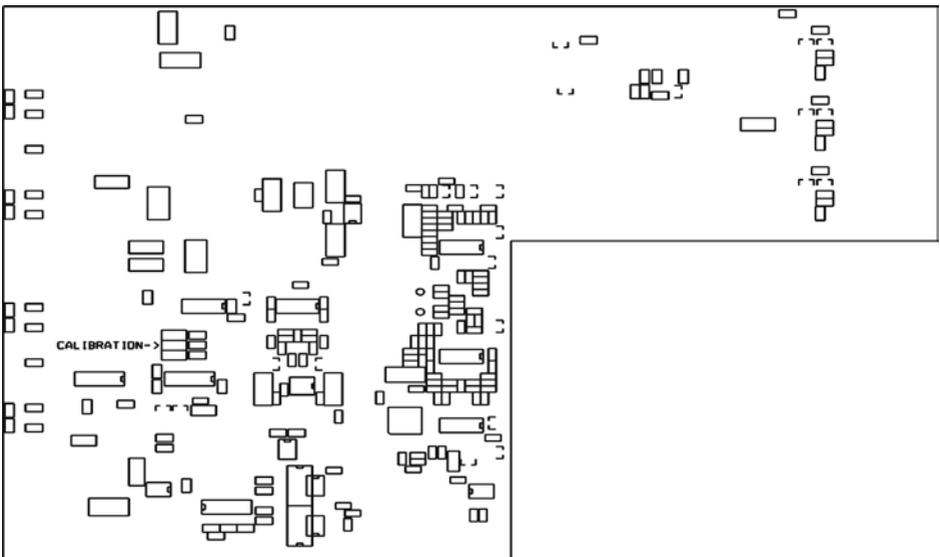

Figure 11 - Location of Adjustments
- c) Set the calibration jumper as shown in Figure 11.